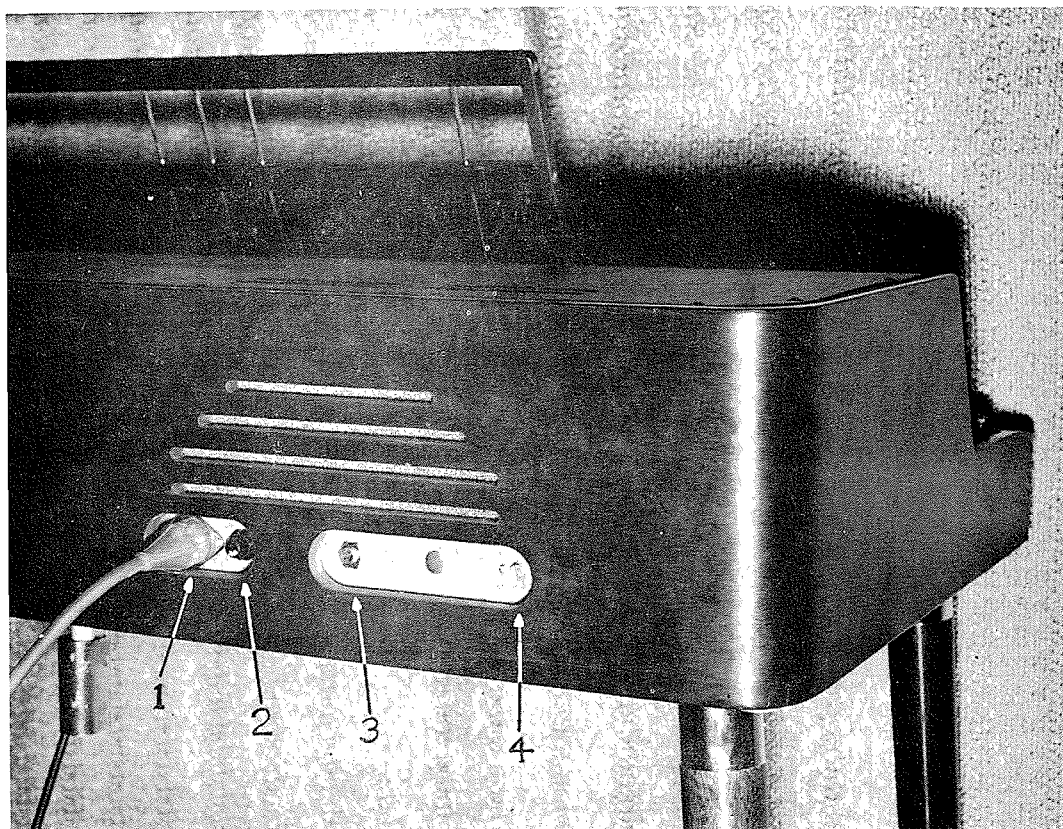

Fig. 120-H
6. A.C. cord: This cord is a one-piece molded line cord that fits the receptacle on the back of the case as shown in Fig. 120-H.